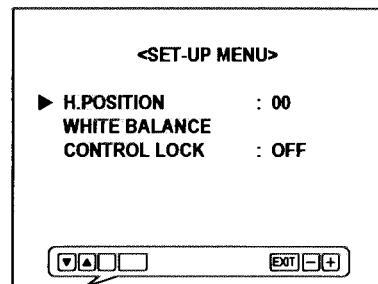

Fig.3
- 1) Press <MENU> and <PHASE> button simultaneously. The SET-UP MENU screen of Fig.3 will be displayed.